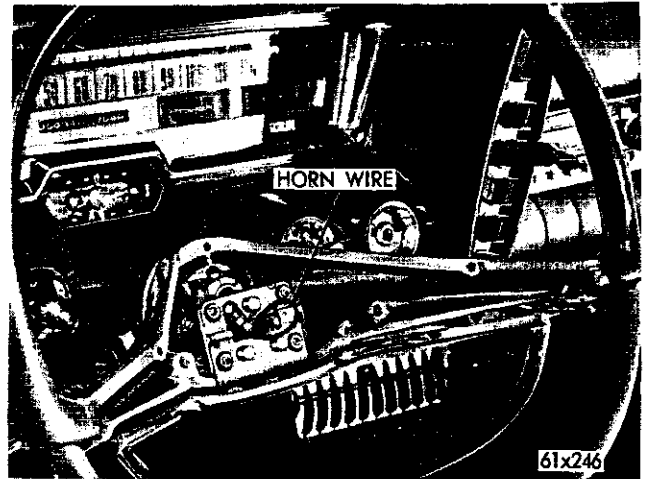

Fig. 23—Horn Switch and Horn Wire
(7) On Imperial models remove the two screws from the underside of the steering wheel and remove the horn blowing actuator and the steering wheel cover.
(8) Disconnect the horn wire at the horn blowing switch.
(9) Remove the four screws and insulators and remove the horn blowing switch (Fig. 23).